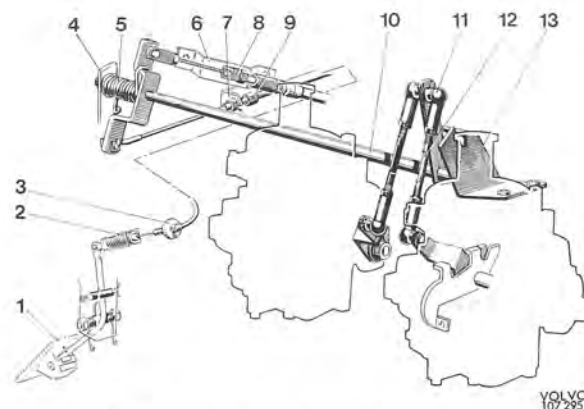

Fig. 2-77. Throttle control, l-h steered vehicle
8. Check that the cable (Fig. 2-77) is well stretched and if necessary adjust on the cable sleeve adjuster (9).